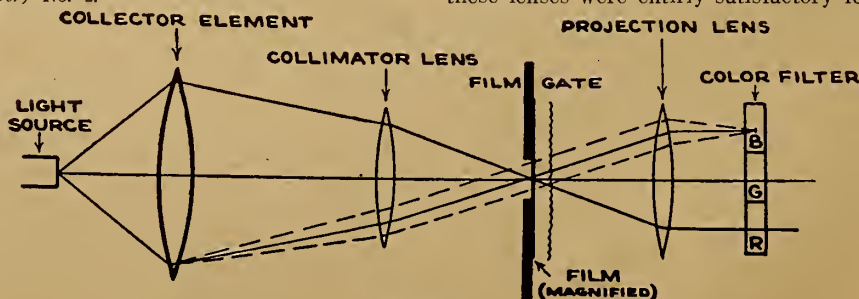

FIGURE 1
*Fundamental Conditions.*—As shown in Fig. 1, the essential elements of a projection system suitable for lenticular color-films are: light-source, collective element, collimator lens, film-gate, projection lens, and color filter. A detailed discussion of the optical relations involved in the use of lenticular films is not within the scope of this paper, and therefore a mere statement is made of the necessary conditions to be observed in practice:
- (1) The light-source must be imaged at the film-gate.
- (2) The collecting element must be imaged at the color filter.
- (3) It is essential that all elements be centered upon the optical axis.
- (4) The color filter must be located at the front focus of the projection lens.